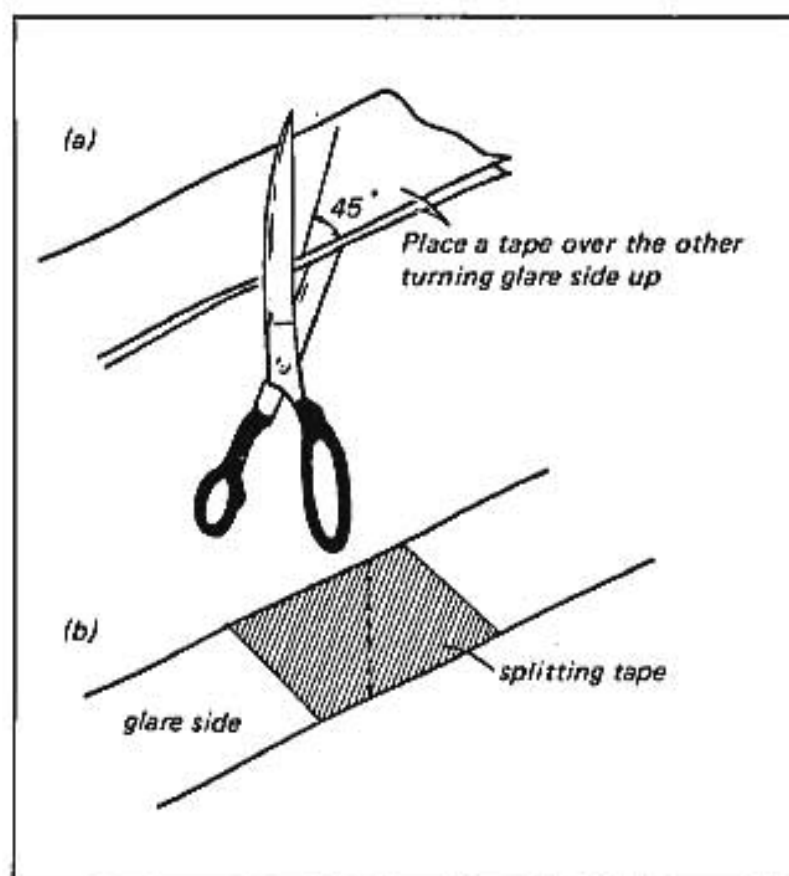

Fig. 9-8
(See Fig. 9-8)
- 1) Overlap the desired two tapes with the reverse (glare side) upward respectively. Cut the ends of the tapes at 45 degrees. See Fig. 9-8 (a)
Apply the splicing tape to the joints of the spliced tape. See Fig. 9-8 (b). And rub the splicing tape with the finger(s) so that the joints and the applied splicing tape stick together firmly.